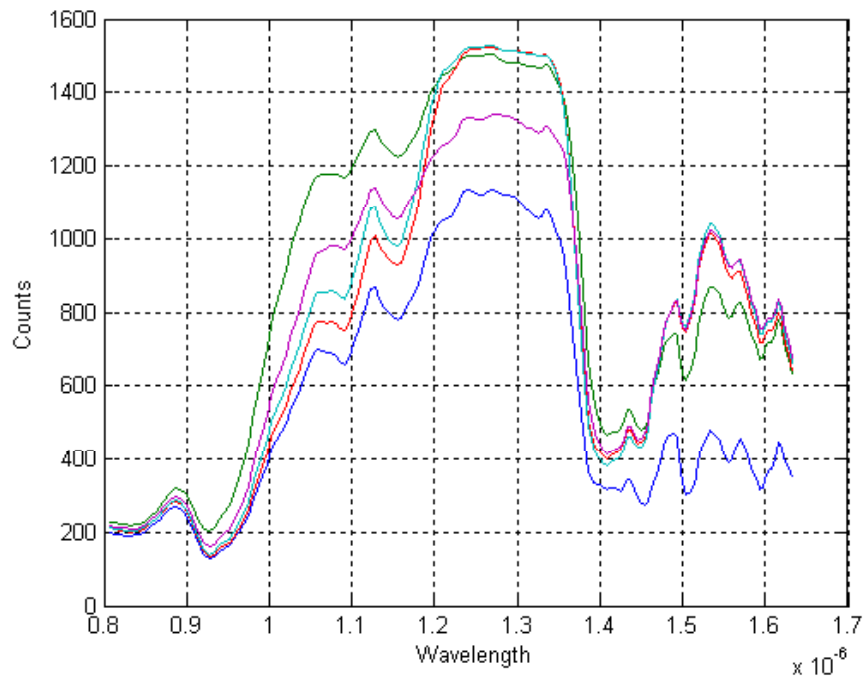

Figure 9: Data Acquired (successive spectra, smoothed features) from Argus 1000 on CanX-2 platform over Ontario, Canada, December 2008.
dioxide is approximately one hundred times greater than that of water vapour. Oxygen can also be observed; however, a shorter integration time is required than for carbon-dioxide observation. Carbon Monoxide (CO) and Hydrogen Fluoride (HF) is not detected in spectra because of feature contamination by other absorbing gases (water vapor). There is some evidence of methane (CH4) absorption at 1.63 μm; however it is contaminated with carbon-dioxide features. The extended range detector is recommended for the observation of methane (CH4) features at 2.25 μm. The integrated intensity is highly correlated with surface albedo. Spectra contaminated by cloud cover show typically reduced gas absorption, a blackbody-like response and increased intensity. Results of spectra acquired over Canada in 2008 are shown in Figure 9. We estimate that the peak radiance observed in this scene is equivalent to 0.04 Wm2 sr-1 nm-1.